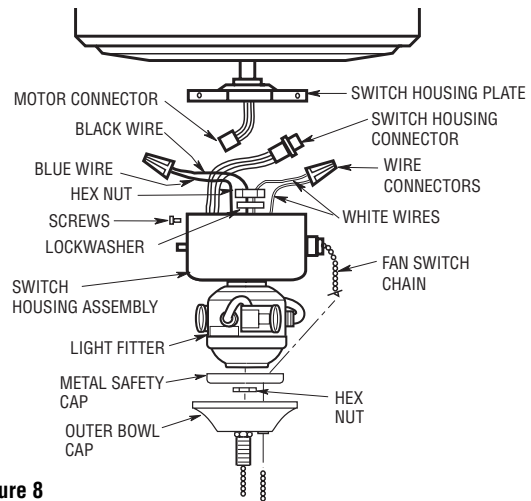

Figure 8
- 2. Remove and retain the lockwasher and nut from the light fitter. Insert the black and white wires from the light fitter through the center hole in the switch housing assembly. Thread the switch housing assembly onto the light fitter. Reinstall the lockwasher and nut and tighten securely (Figure 8).
- 3. Connect the white wire from the ceiling fan to the white wire of the light fitter. Connect the blue wire from the ceiling fan to the black wire of the light fitter. Use wire connectors (previously removed) to make connections (Figure 8).